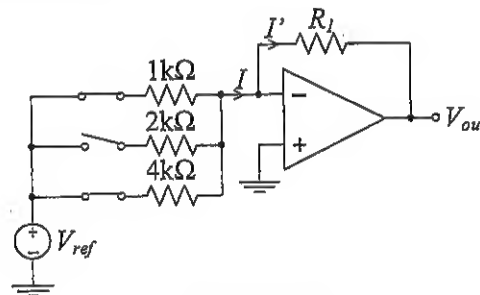

Figure Q2(d)
- List THREE (3) processor technologies and their benefits. [6 marks]
- Selection of the best processor must be aligned to the application. List THREE (3) efficiencies that must be considered during the selection process and identify ONE (1) method to improve each of these efficiencies. [3 marks]
- (c) Narrowband Internet of Things (NB-IoT) is a low-power wide-area network (LPWAN) technology developed by 3GPP to enable a wide range of new IoT devices and services. Briefly discuss TWO (2) strengths and TWO (2) weaknesses of NB-IoT comparing to LoRa technology. [6 marks]
- (d) For the digital-to-analog converter (DAC) shown in Figure Q2(d), determine  $R_f$  if  $V_{ref} = 5V$  and  $V_{out} = -3.125V$ . [4 marks]